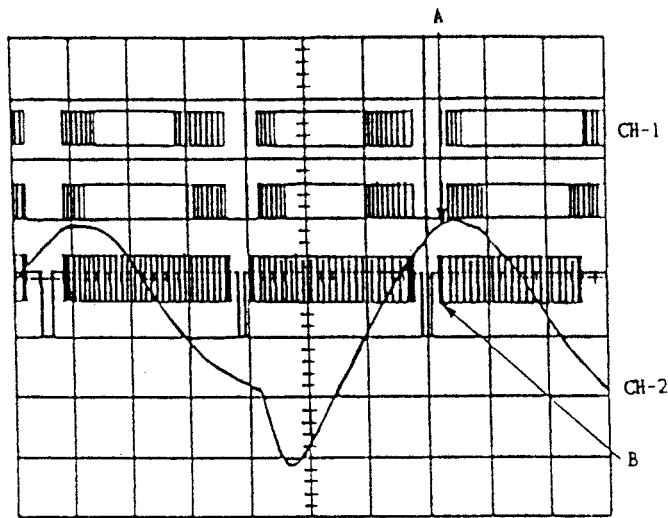

Fig. 28
- (1) Connect CH-1 of oscilloscope to TP4201 and CH-2 of oscilloscope to TP3702.
- (2) Adjust L3702 so that peak of waveform A and leading edge of video signal of waveform B may become same as shown in Fig. 28.